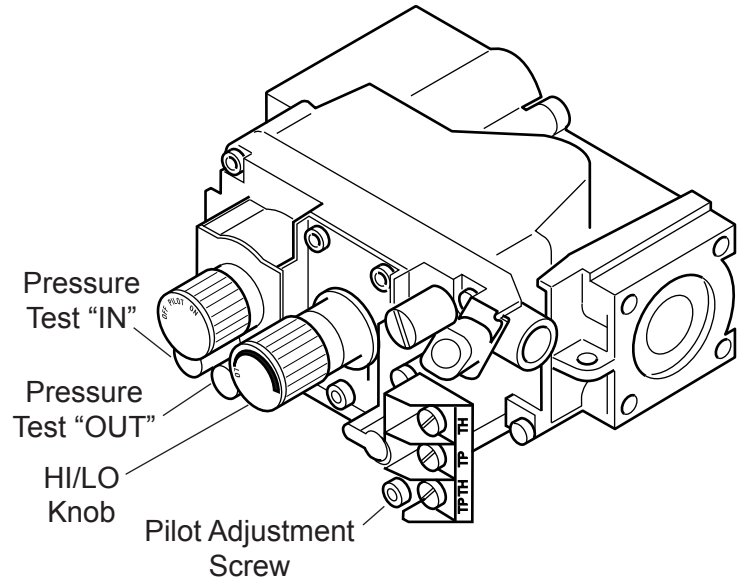

Figure 40 - Gas Pressure Check at Gas Valve
5. To check gas pressures at valve, turn captured screw counter clockwise 2 or 3 turns and then place tubing to pressure gauge over test point. Turn unit to high. *See Figure 40.* After taking pressure reading, be sure and turn captured screw clockwise firmly to reseal. Do not over torque. Check test points for gas leaks.